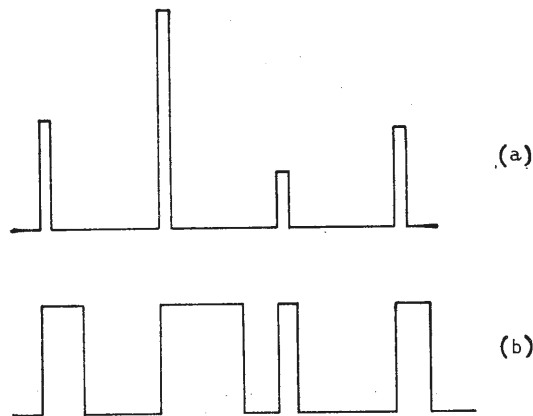

Fig. 4. (a) Transmission of a waveform by p.a.m.; (b) transmission of an identical waveform by p.w.m.
P.a.m. is a relatively simple system, but it gives no protection against noise. Any noise superimposed on these pulses during transmission will appear as noise on the reconstituted waveform in the receiver output. Pulse width modulation gives much better protection. In this system pulses are transmitted whose width is proportional to the amplitude of the samples. Fig. 4(a) shows a waveform as it would be transmitted by p.a.m., and (b) shows the corresponding p.w.m. waveform.